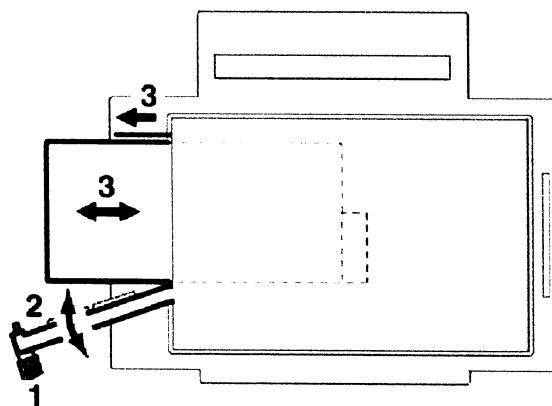

Fig. 1 Removing the internal battery
1. Slacken the screw Fig. 1/1 of the battery compartment cover anti-clockwise until the cover can be opened.
2. Fold the cover Fig. 1/2 down.
3. Pull the internal battery Fig. 1/3 forward by its tab and withdraw it.